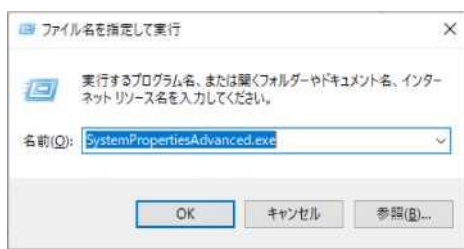

Fig. 5.6 Run with file name
- Click "Windows + R", type "SystemPropertiesAdvanced.exe" and hit OK to open System properties. (Fig. 5.6)